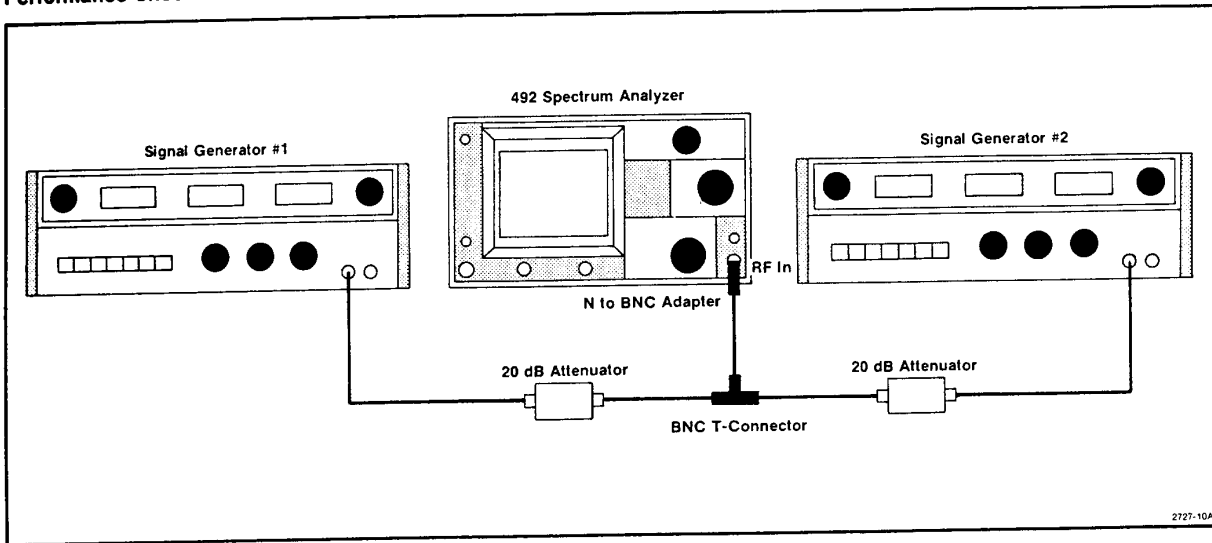

Fig. 3-13. Test equipment setup for measuring intermodulation distortion.
b. Apply two signals from two  $50 \Omega$  sources, separated about 2 MHz and within the frequency range of band 1. Apply the signals through 20 dB attenuators (for isolation), a bnc "T" connector, and bnc-to-n adapter, to the 492/492P RF INPUT (test equipment setup is shown in Fig. 3-13).